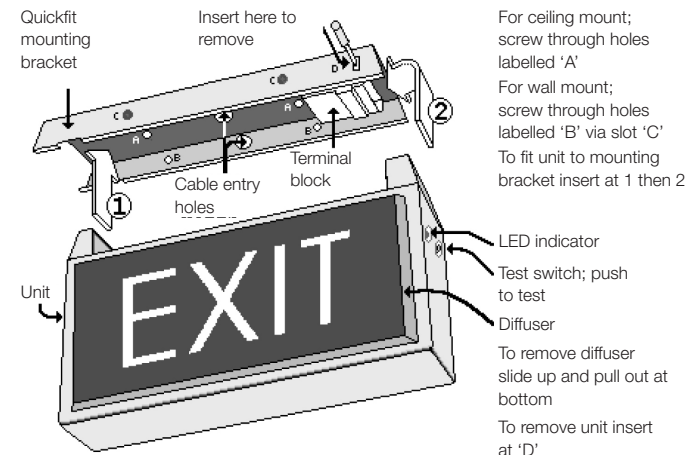

Figure 3: Quickfit insertion diagram
7. Fit the back plate and/or diffuser/s to the unit (if not already in place) and attach the unit to the mounting bracket by aligning the top left hand end of the unit (the end without the protruding electrical connecting metal lugs) with the large cut away slot towards the left hand end of the bracket. Slip the left hand end of the unit up into the slot in the left hand end of the bracket (step (1) in figure 3) and hold the unit horizontal to and parallel with the bracket. It should be approximately 50mm to the right of its final destination. Simply slide the unit (step (2) in figure 3) 50mm to the left along and into the bracket to engage the connections and the locking tab. Once in place, the unit cannot be removed from the bracket without the use of a tool (a small screwdriver) to push in the locking tab at 'D' in figure 3.
1. Gently insert a small screwdriver into the slot (at 'D' in figure 3) on the front of the bracket towards the right hand end of the fitting, to ease the locking tab into the fitting and away from the bracket.